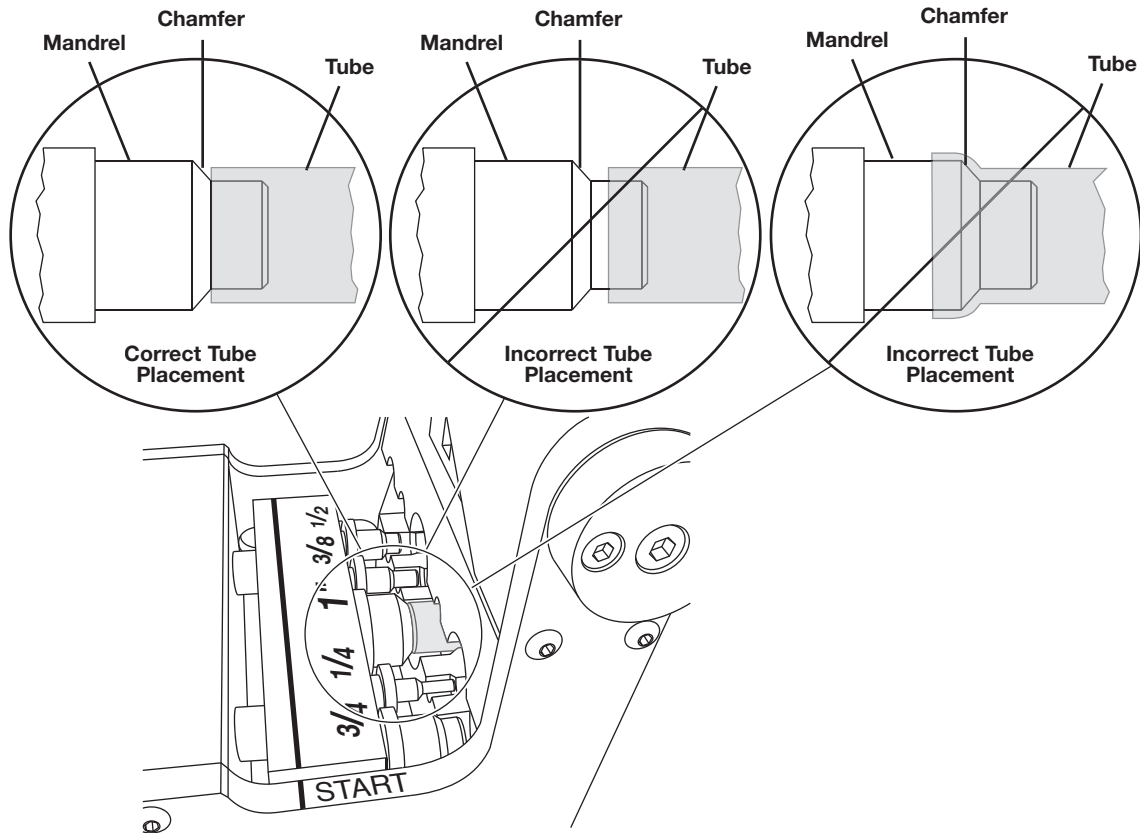

Fig. 8
See Figs. 8 and 9.
4. Return the **ram arm** completely to its original position, past the "START" position marked on the frame. See Fig. 8.